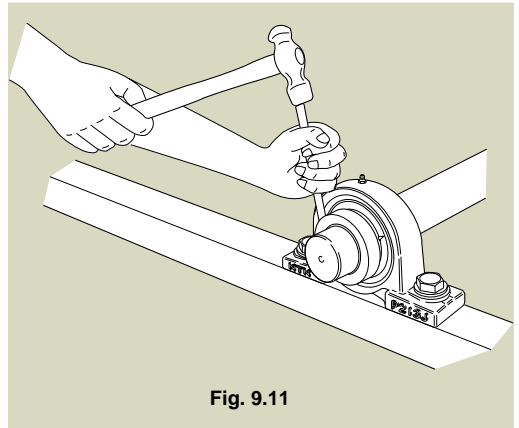

Fig. 9.11
- 6) Insert a bar into the hole provided on the periphery of the eccentric collar and tap the bar so that the collar turns in the direction of rotation of the shaft (see Fig. 9.11).